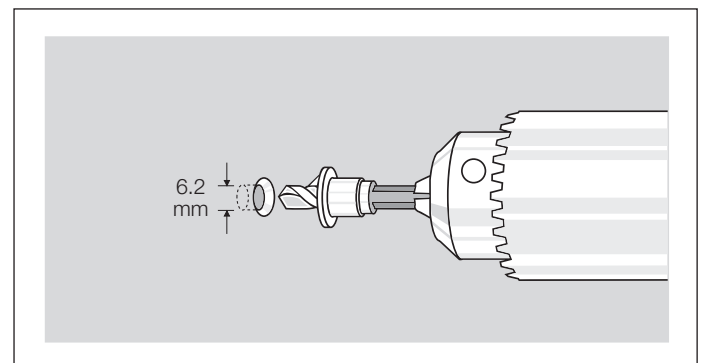
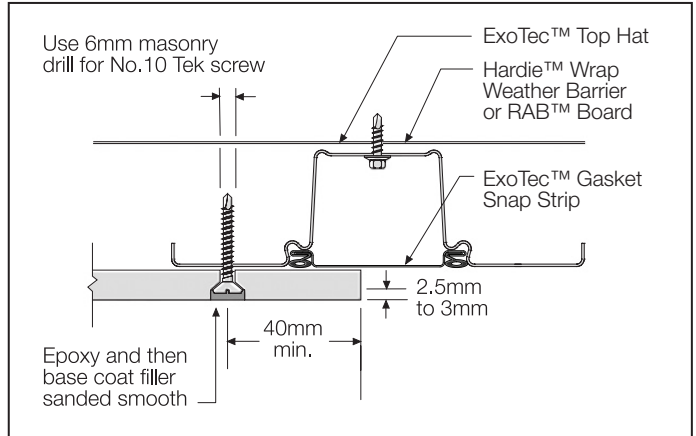

FIGURE 10 DRILL COUNTERSINK HOLE
FIGURE 15 COUNTERSUNK FASTENER DETAIL
- Drill clearance holes into ExoTec™ Facade Panel, for No.10 gauge screws using a 6mm countersunk masonry drill, which provides a 6.2 to 6.3mm diameter hole, see Figure 10. Countersink hole to a depth of 2.5mm to 3mm. This is measured from the top of the screw to the top of the sheet, see Figure 15.